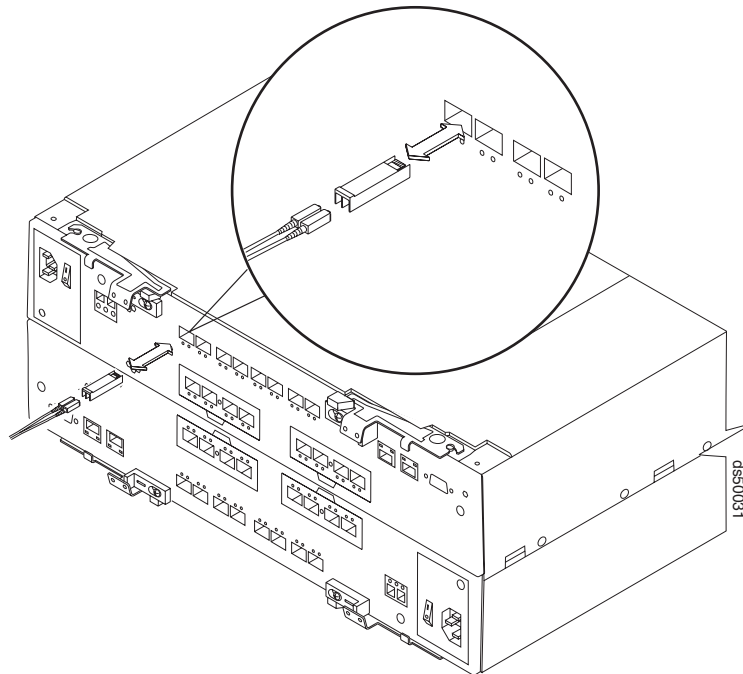

Figure 138. Replacing a SFP or SFP+ module
6. Disconnect the interface cable from the SFP module. (Figure 138 shows the SFP module, interface cable, and the rear of a controller.)
5. Disconnect the interface cable from the SFP+ module. (Figure 138 on page 218 shows the SFP+ module, interface cable, and the rear of a controller.)